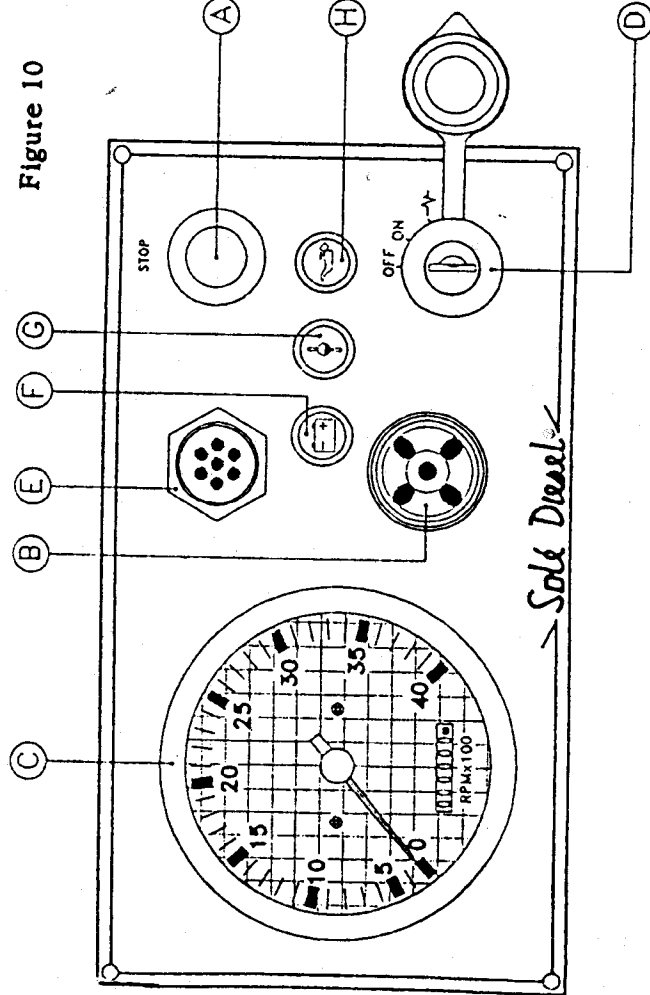

Figure 10
- 2) Rotate the starting key (D) to position "ON". Check oil pressure (H), battery charge (F) lamps are lighted and the alarm (B) is heard (Fig. 10).
- Rotate starting key to position (pre-heating), until the indicator lamp of the heating spark plugs is lighted (E) (Figure 10). The suitable pre-heating time is 20 seconds approx. In the practice, the optimum pre-heating time varies as a function of the ambient temperature, follow then the table given below: (Pag. 18).
- 2) Press "STOP" stopping pushbutton (A) Fig. 10 until, the engine is fully stopped.